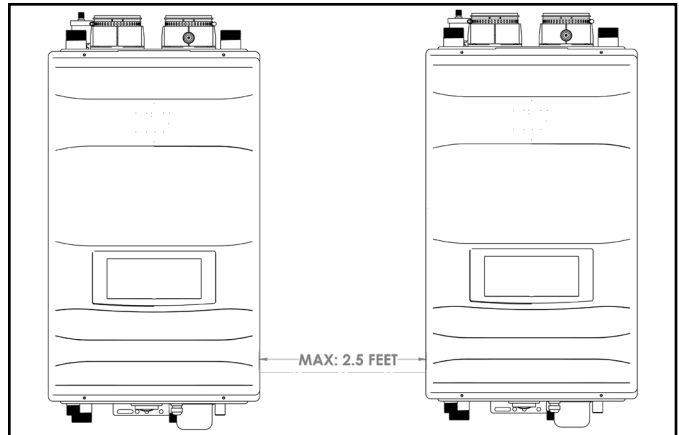

Figure 40 - Maximum Distance Between Wired Cascaded Units
1. Connect the five pin connectors of the cascade communication cables to the control board of every unit. See Figures 40 and 41.